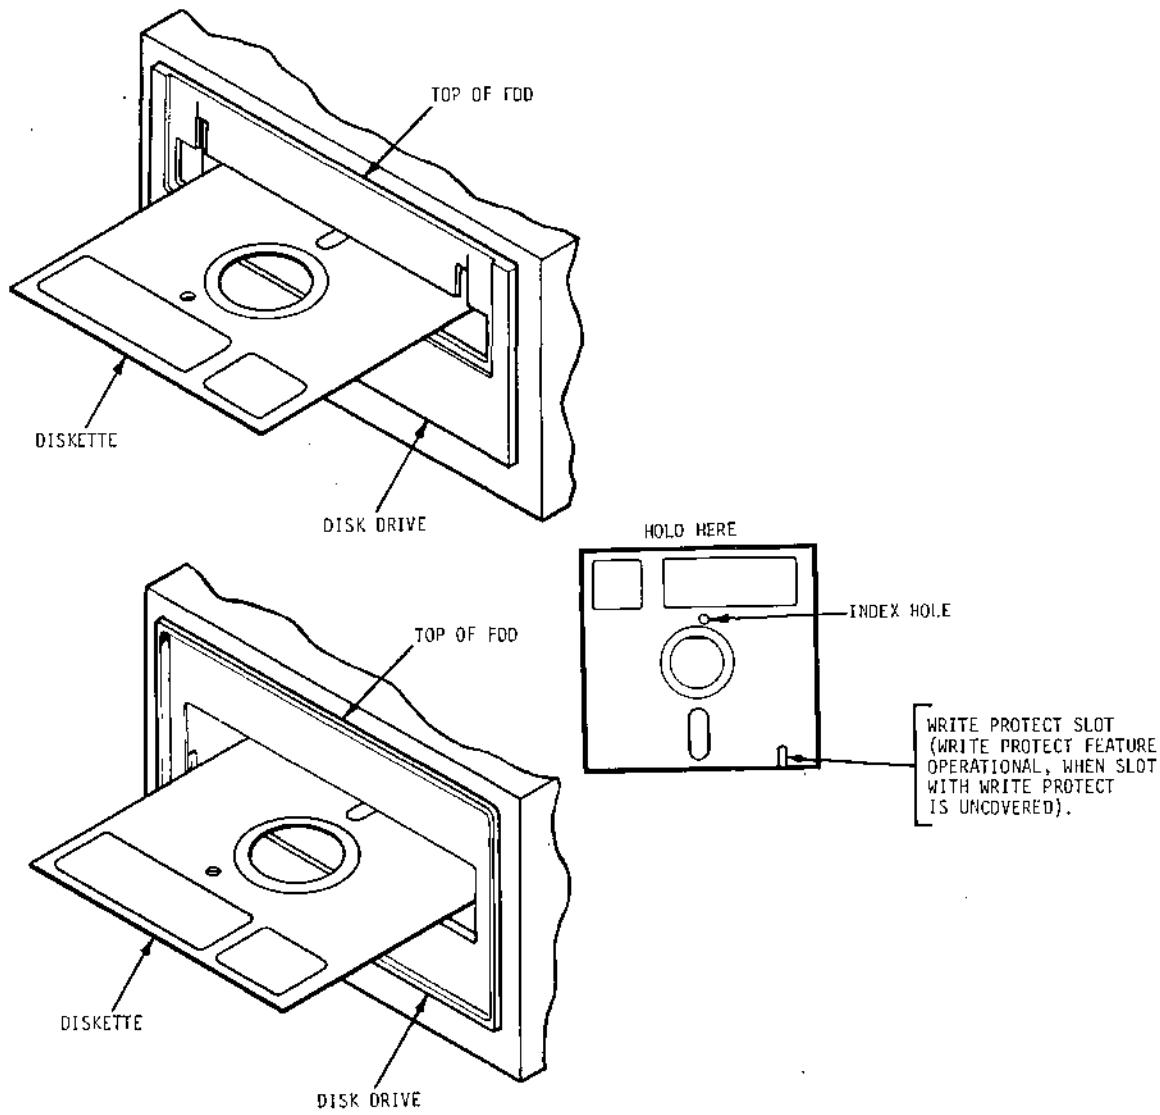

Figure 2-1. Diskette Installation
- c. Remove diskette from storage envelope as shown in Figure 2-1.
- d. On units with the Write-Protect option, be sure the Write-Protect slot in the jacket is open, as shown in Figure 2-1, if the diskette is to be write-protected.
- f. Carefully slide diskette into FDD, as shown in Figure 2-1, until jacket is solidly against stops and sets the ejector mechanism.